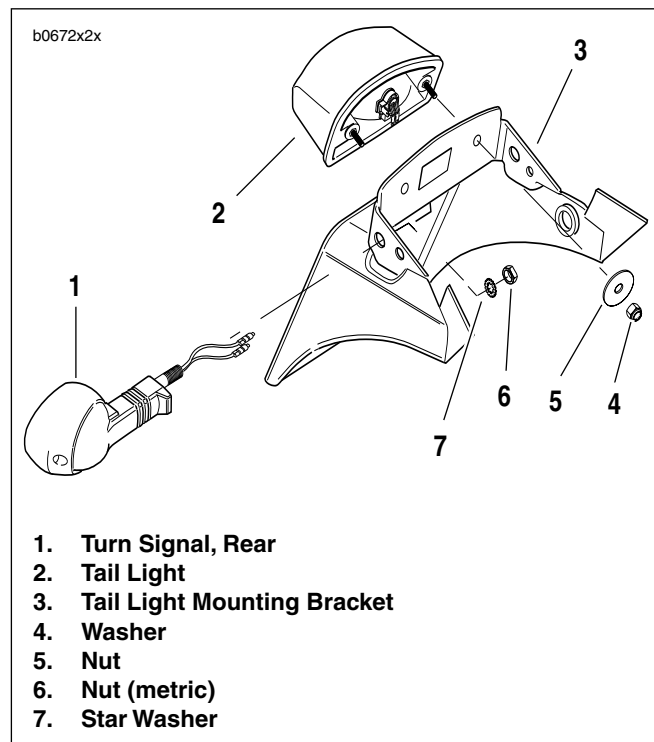

Figure 2-133. Tail Light/Rear Turn Signals
1. See Figure 2-133. Remove two nuts (metric) (4) and washers (5) from tail lamp studs to detach the tail lamp (2). Pull the three wires from back of tail lamp.
3. See Figure 2-133. Remove turn signal nuts (metric) (6) and washers (7). Disconnect bullet connectors.
4. Tilt license plate bracket (3) forward to remove.
2. See Figure 2-133. Install turn signals (1), with drain holes facing down, with star washers (7) and nuts (6) (metric). Tighten to 96-120 **in-lbs** (11-14 Nm). See 7.13 TURN SIGNALS to connect wiring.
3. Install nuts (metric) (4) and washers (5) for tail lamp (2). Do not connect wires until after installation.